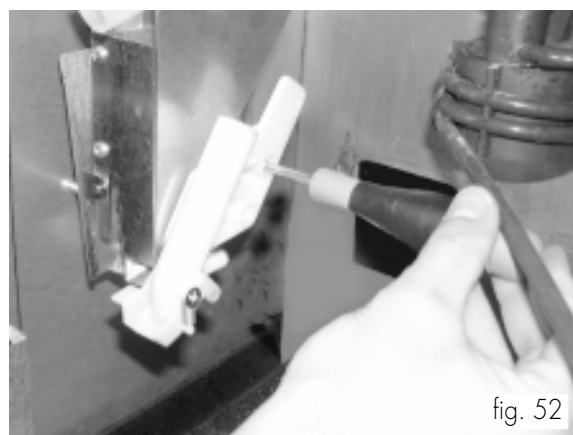

fig. 52
- Disassemble the sugar-dispensing channel (Fig. 52).